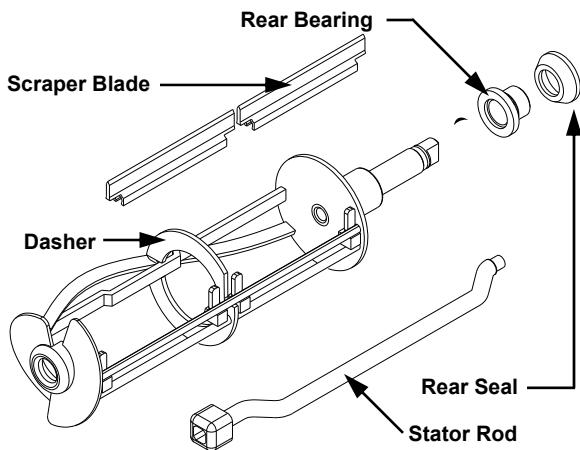
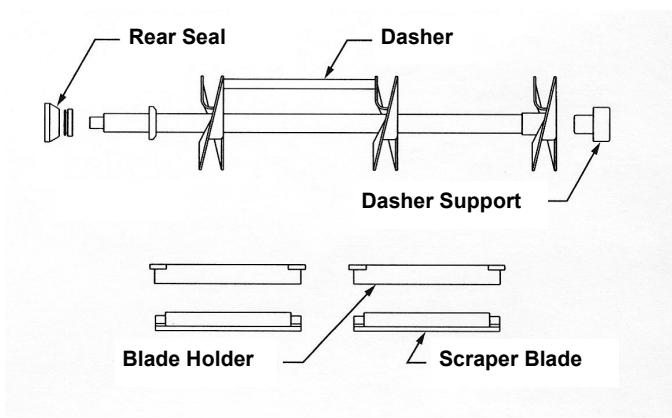

Fig. 11
Fig. 12
7. Remove the dasher assembly (Fig. 11 or Fig. 12) being careful not to damage the scraper blades, then disassemble in the following manner:
- Remove Dasher Support (WB 7110, Fig. 12)
- c. Remove the blades from the dasher (Fig. 11) by first rotating blade upward (Fig. 13) and then unsnapping one end from the support rod.
- Remove the blade holders from the dasher assembly by first rotating the blade upward and then sliding the pins out of the dasher. (WB 7110, Fig. 12)
- Remove the blades from the blade holders. (WB 7110, Fig. 12)
8. Remove the mix pan lid, drip tray and drip tray insert (Fig. 12).